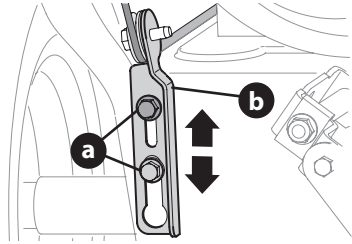

Figure 47
4. Allow auger to remain engaged for approximately ten (10) seconds before releasing auger control lever. Repeat this several times.
7. Loosen the two hex screws (a) on auger control cable bracket (b) (Figure 47).
8. Position auger control bracket (b) upward to provide more slack in cable (Figure 47).